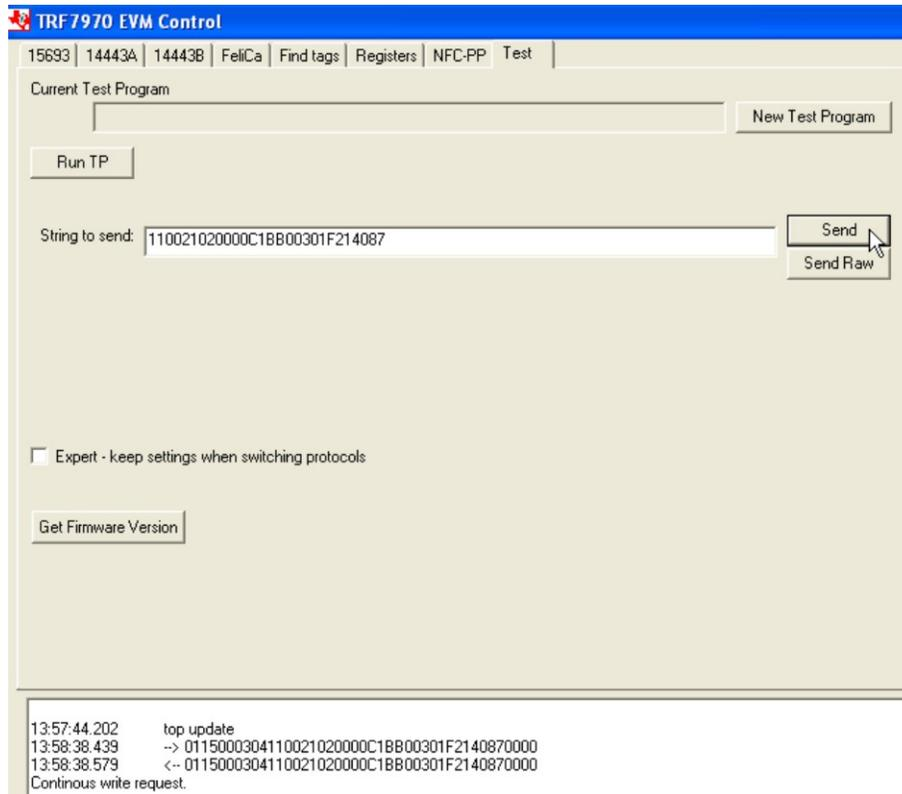

Figure 39. Continuous Write to Registers 0x00 to 0x0B Example
1. For observing a read or write continuous to the registers of the TRF7970A during code development with a logic analyzer. These examples are using the Send button which adds on the necessary bytes before and after data to send strings are entered. This example is setting up the TRF7970A for full power out and ISO15693 operation (see Figure 39 and Figure 40).